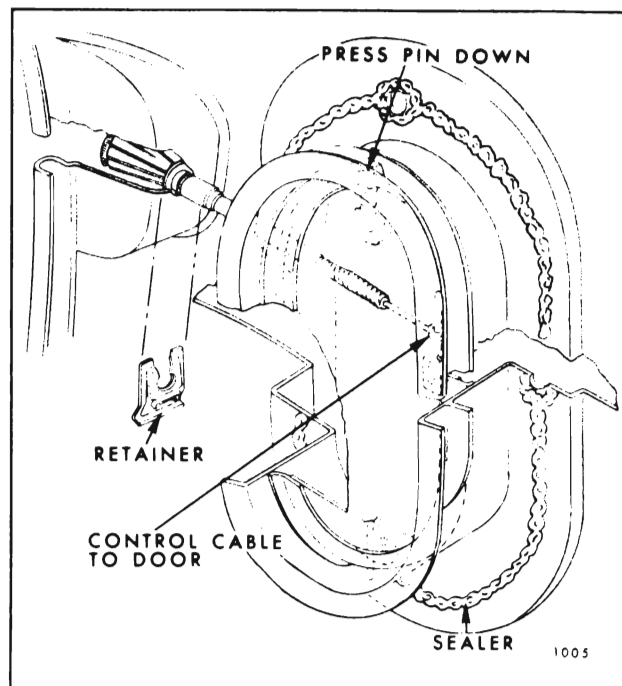

Fig. 5-5—Shroud Side Finishing Panel and Air Outlet Duct Assembly - "F-X-Z" Styles
5. To install, apply a generous bead of medium-bodied sealer to flange of finishing panel and duct assembly (Fig. 5-5) and reverse removal procedure.
2. Disconnect control cable from door (Fig. 5-5).
3. Press down on upper door hinge pin (Fig. 5-5) and remove door assembly.
3. Remove retainer securing control assembly to finishing panel (Fig. 5-5) and remove control assembly.